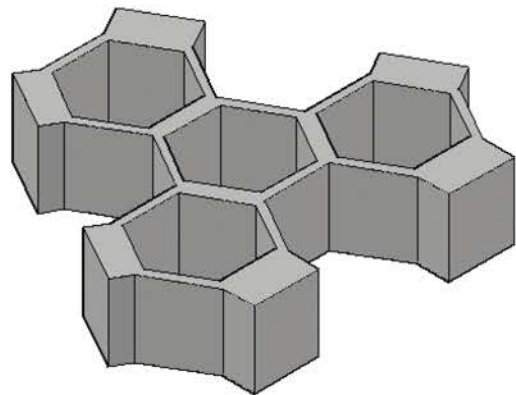

Fig. 9.43 Exercise 3
- Fig. 9.43 shows the 3D model from Exercise 2 acted upon by the **Presspull** tool from the **Home/Create** panel.
With the 3D model from Exercise 2 on screen, and using the **Presspull** tool, construct the 3D model shown in Fig. 9.43. The distance of the pull can be estimated.